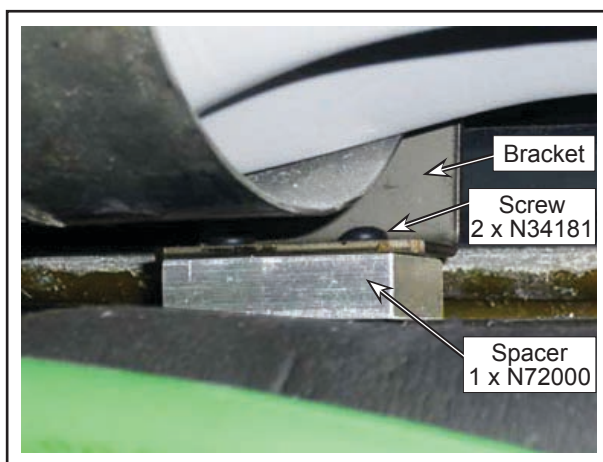

Figure 10 - Spacer Under the Bracket
- 1.11. Between the bracket and the structure, add the spacer. Use the new screws to keep it in place. See Figure 10.